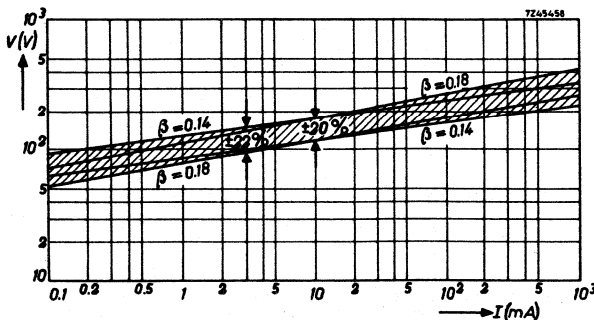

Fig. 10 Spread of voltage/current characteristic due to  $\beta$ -tolerance.
According to Eq. (1) it is possible to specify the electrical characteristics of a VDR resistor by giving its C and  $\beta$ -values. The advantage of this specification is that only two parameters are used. The disadvantage is, however, that due to the inevitable tolerances on the  $\beta$ -values, the spread in voltages at low currents (in the working area) becomes very large. It is for this reason that the method of specifying by the C-value defined at 1 A is abandoned and we now specify the voltage across the VDR at currents which lie in the working area (1, 10 or 100 mA instead of 1 A). In this way it is possible to supply VDRs which have much closer tolerances in the area where they are used, see Fig. 10.
Standard VDRs are specified with a certain tolerance on voltage and a spread on  $\beta$ -value. It can be seen in Fig. 10 that due to the spread in  $\beta$ -value the tolerance on voltage may increase at currents other than the specified current at which the VDR is measured.